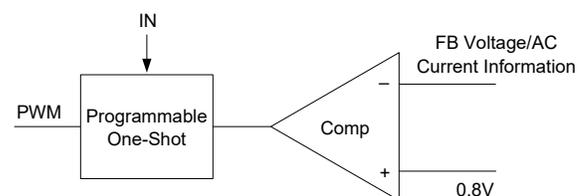

Figure 2. Simplified Control Schematic of AOZ2152EQI-28
The control algorithm of AOZ2152EQI-28 is constant-on-time PWM control with input feed-forward. The simplified control schematic is shown in Figure 2. The high-side switch on-time is determined solely by a one-shot whose pulse width is inversely proportional to input voltage (IN). The one-shot is triggered when the internal 0.8V is higher than the combined information of FB voltage and the AC current information of inductor, which is processed and obtained through the sensed low-side MOSFET current once it turns-on. The added AC current information can help the stability of constant-on time control even with pure ceramic output capacitors, which have very low ESR. The AC current information has no DC offset, which is fundamentally different from other  $V^2$  constant-on time control schemes.